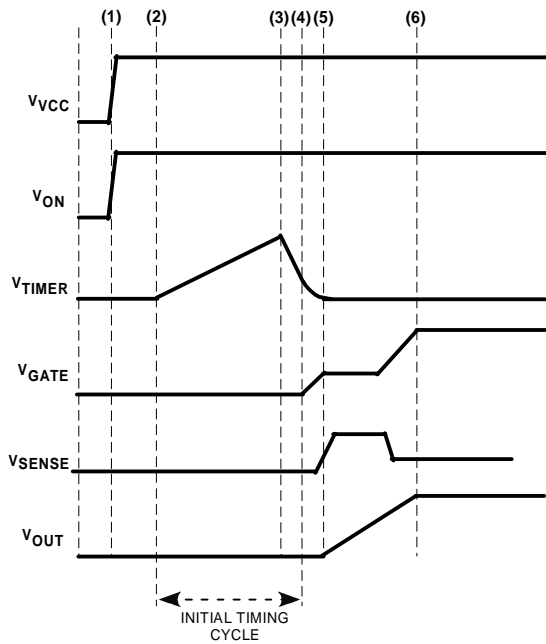

Figure 4. Start-up (ON asserts as power is applied)
When VCC is first connected to the backplane supply, there is an internal supply (time-point (1) in Figure 4) in the ADM1175 which needs to charge up. A very short time later (significantly less than 1 ms) the internal supply will be fully up and, since the undervoltage lockout voltage has been exceeded at VCC, the device will come out of reset. During this first short reset period the GATE pin is held down with a 25 mA pulldown current, and the TIMER pin is pulled down with a 100 μA current sink.
When the initial timing cycle terminates, the device is ready to start a hotswap operation (assuming ON/ONB pin is asserted). In the example shown in Figure 4, the ON pin was asserted at the same time as VCC was applied, so the hotswap operation starts immediately after time-point (4). At this point the FET